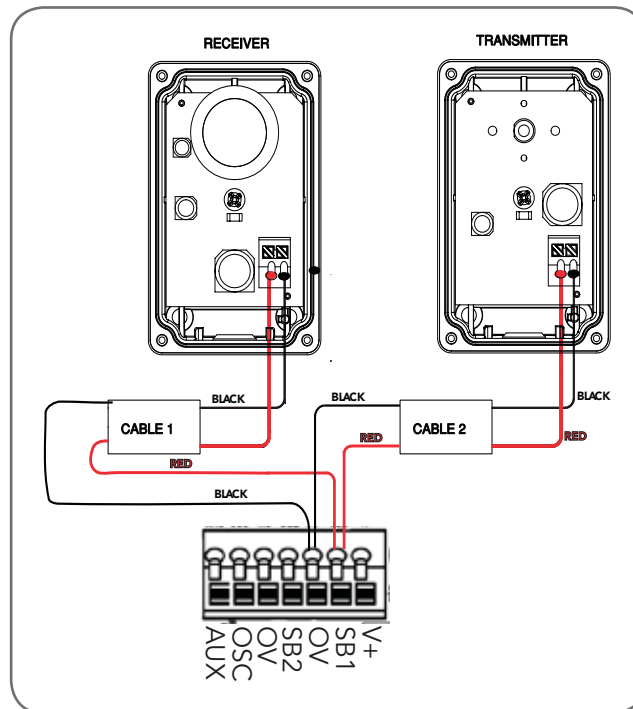

Fig.6.3.2
- Wire the PE Beams as per Wiring Diagram (Fig. 6.3.2).